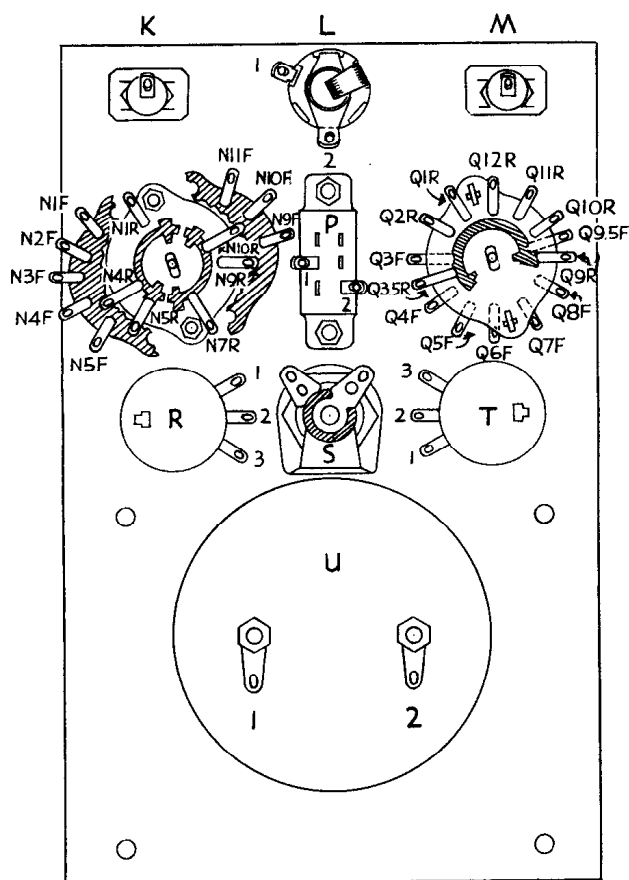
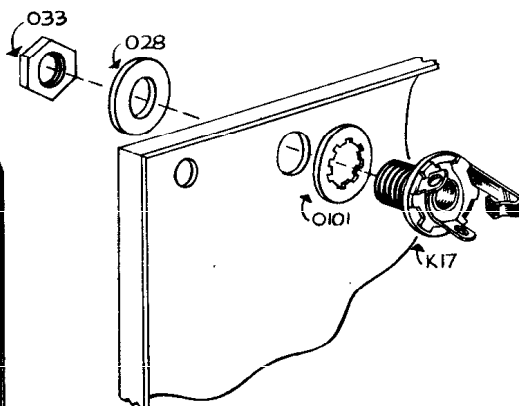

Fig. 5
Fig. 8
Note Figure 5 for the proper placement of switches, controls, etc. on the panel. Place all contacts and lugs in the same relative positions as shown in the figure. Figure 6 shows the method to use in mounting controls and switches.
- (✓) Consult Figure 8 and mount the phone jack assembly (K17, O101, O28, O33) in position L. Be sure the positioning of lugs is exactly as shown in Figure 5, otherwise shorting could occur when the unit is placed in the case.